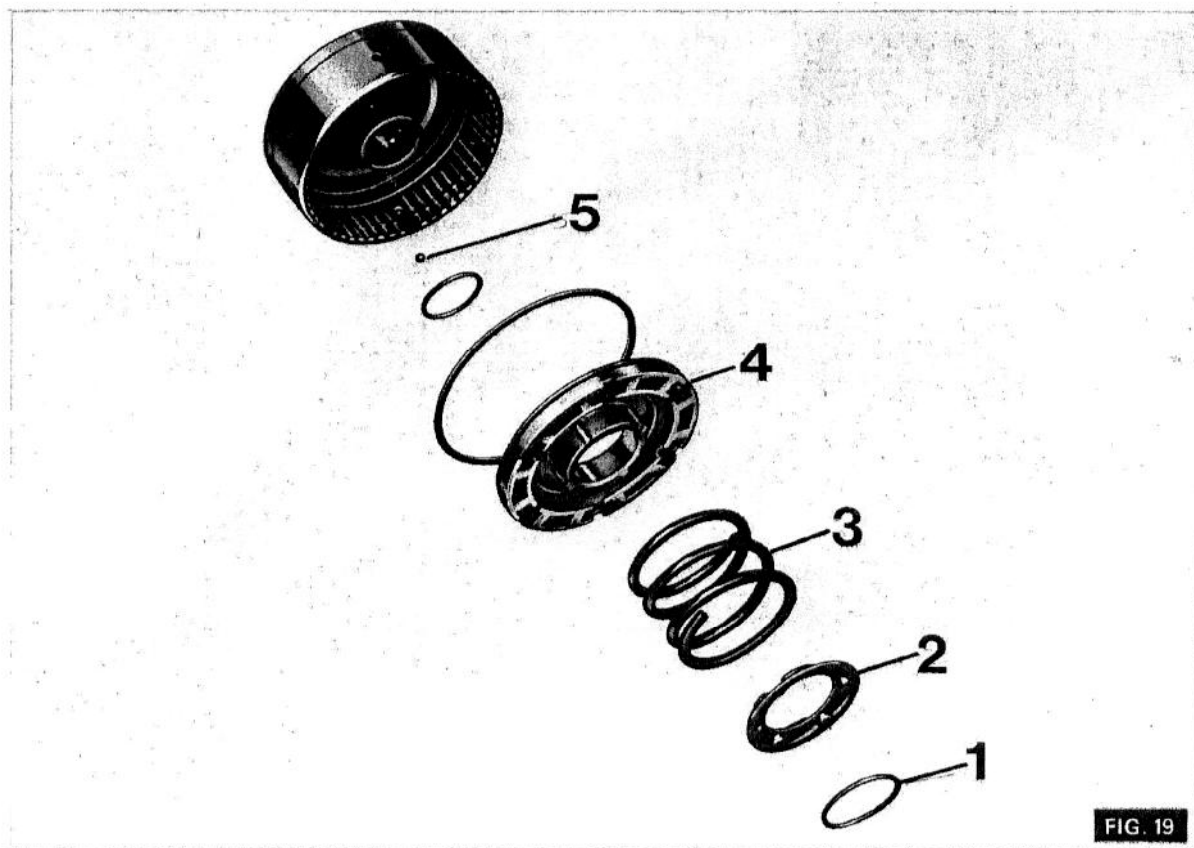
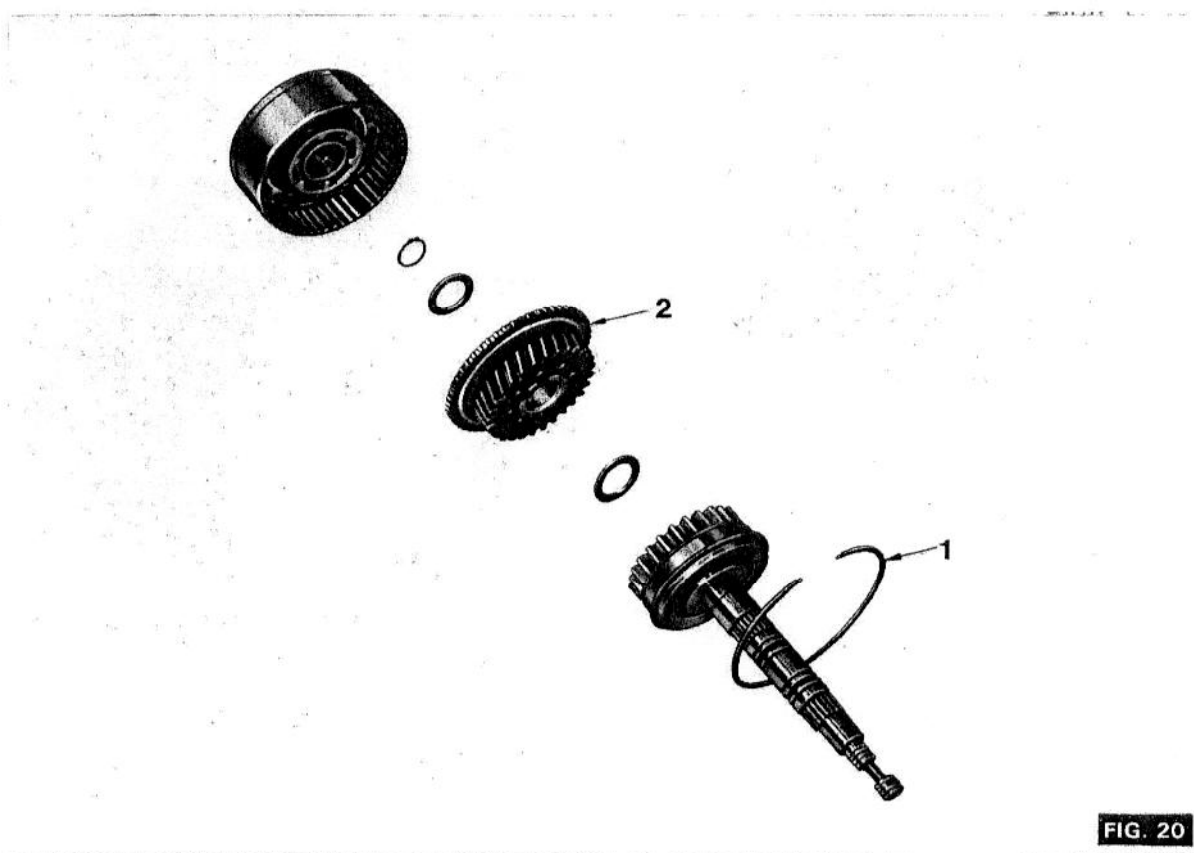

FIG. 19
FIG. 20
- (b) Fig. 19. Remove the coil circlip (1). Release the tension on the spring and remove the spring retainer (2) and the spring (3).
- (c) Use compressed air directed into the hole in the back of the drum to remove the piston (4).
- (d) Remove the two sealing rings and the ball bearing (5).
9. (Fig. 20) Turn the clutch assembly over and remove the large circlip (1) retaining the reverse clutch cover (2).
1. (Fig. 19) Fit a new rubber seal to the drum spigot and also to the piston (4).
2. Replace the steel ball (5) into its location hole.
4. Fit the spring (3) and the spring retainer (2) onto the piston.
5. Use the tool MF 244 to compress the spring, ensuring equal compression all round. Replace the coil circlip (1) and remove the tool.